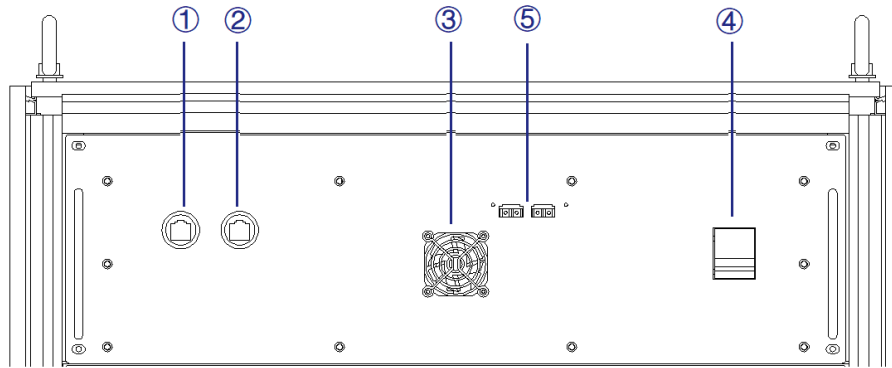

Figure 1-22 Control module of front panel
The master slaver interface is located on the front panel of the control box, as shown in Figure 1-22⑤.